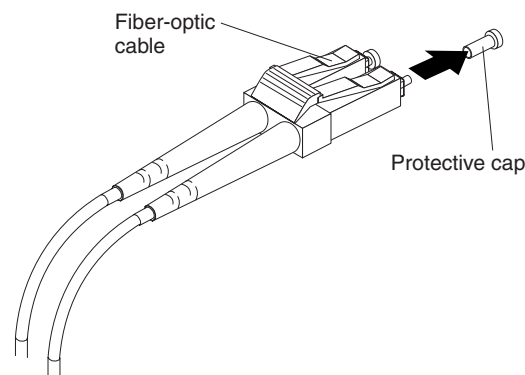

Figure 40. Removing fiber-optic cable protective caps
3. Remove the two protective caps from one end of the LC-LC cable, as shown in Figure 40. Save the protective caps for future use.